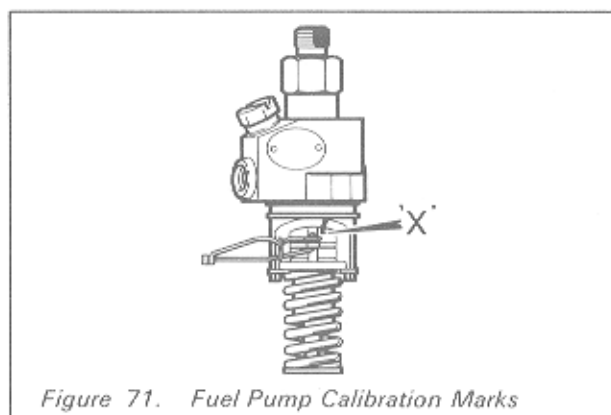

Figure 71. Fuel Pump Calibration Marks
2. Check that the calibration mark (X) on the fuel pump is in line with the mark on the centre of the fuel pump body, as shown in Figure 71, while the distance 'A', as given in Item 1., is maintained.